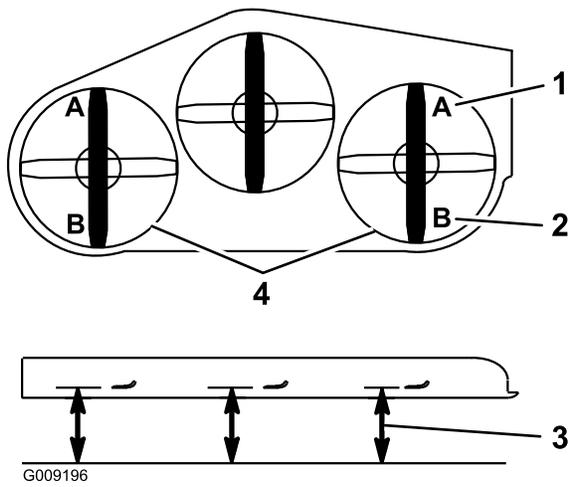

Figure 99
9. On both sides of the deck, measure from the level surface to the front tip of the blade (Position A) as shown in Figure 99.
15. On both sides of the deck, measure from the level surface to the back tip of the blade (position B) as shown in Figure 99.